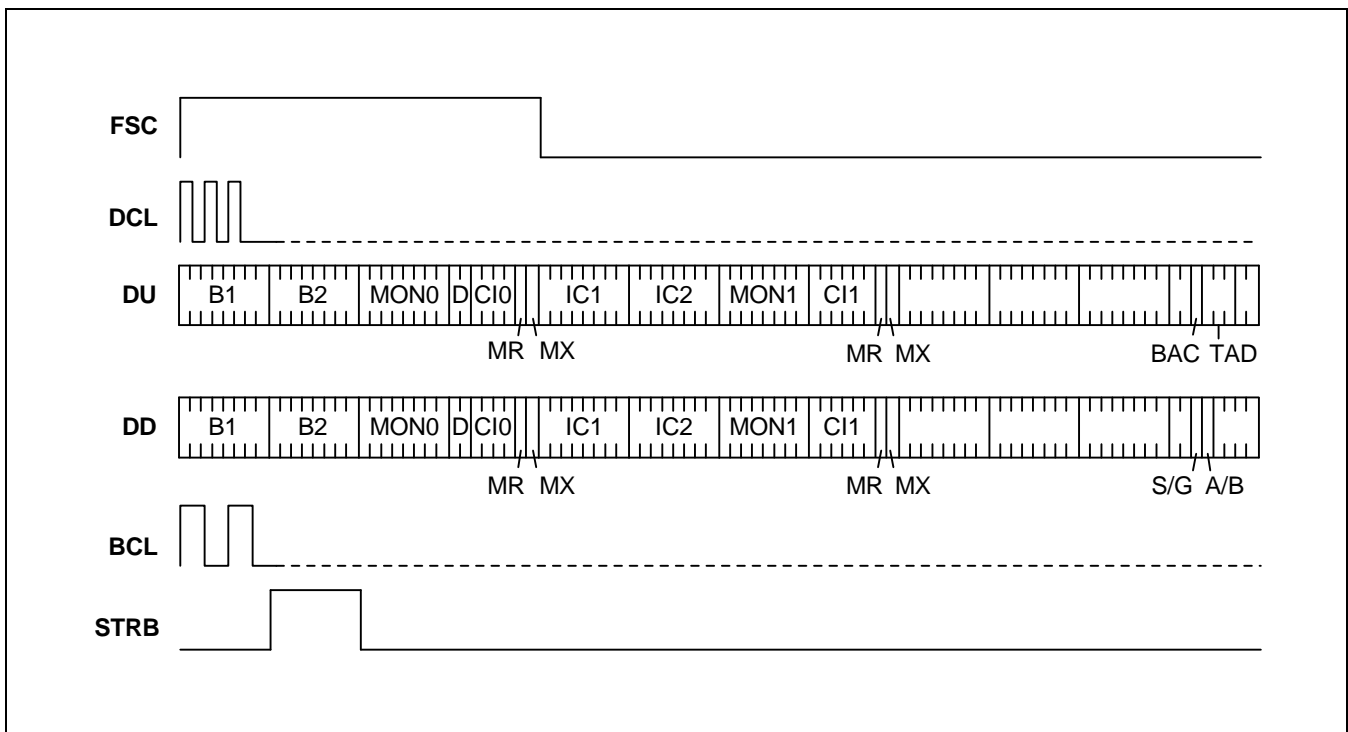

Figure 9-1. IOM2 Channel Structure in Terminal
The IOM2 bus provides a symmetrical full-duplex communication link, containing user data, control/programming, and status channels. Both the line card and terminal portions of the IOM2 standard utilize the same basic frame and clocking structure, but differ in the number and usage of the individual channels. The various channels are time-multiplexed over a four-wire serial interface. Data is clocked by a Data Rate Clock(DCL) that operates at twice the data rate. Frames are delimited by an 8-kHz Frame Synchronization Clock(FSC). Data is carried over Data Upstream(DU) and Data Downstream(DD) signals. Three additional signals are specified in the terminal mode to facilitate connecting components that do not directly support IOM2. These are a 1x-Bit rate Clock (BCL), and two Serial Data Strobes that identify the location of the B channels (SDS1 and SDS2). The S3C2500B includes two optional signals, BCL and SDS1. SDS1 is called STRB in S3C2500B. In S3C2500B, the terminal mode operation is supported but line-card mode is not supported. Figure9-1 shows the IOM2 channel structure in terminal mode.